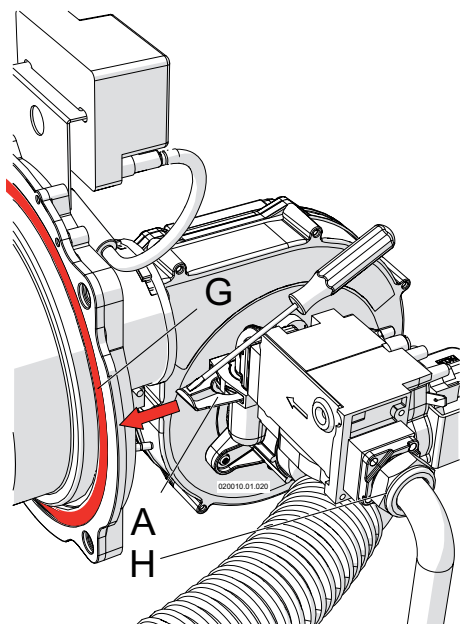
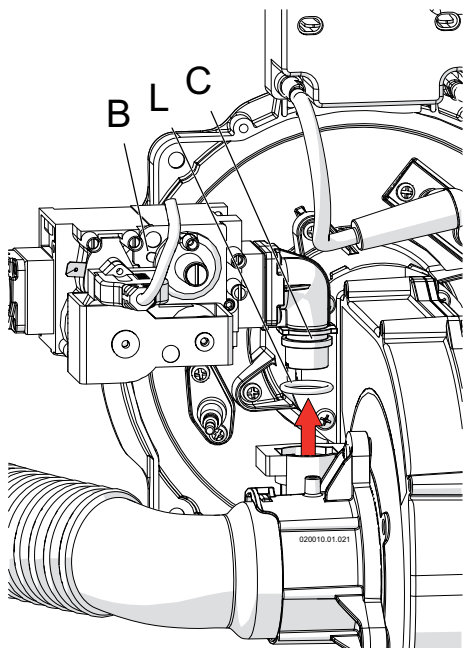

Figure 12-3 Dismantle the gas valve
Figure 12-4 Lift the gas valve
- 10 - unscrew nut "H" as per Figure 12-3;
- 11 - with the help of a screwdriver, remove spring "A" (see figure 12-3);
- 12 - remove the gas valve from its site "C" as per Figure 12-4 (take care attention to o-ring "L" of Figure 12-4);
- 14 - reinstall the gas valve, taking care attention to the o-ring "L" of Figure 12-4 and to the gasket between gas valve and nut "H" of Figure 12-3;
- 15 - Insert again the spring "A" of Figure 12-3;
- 16 - tight nut "H" of Figure 12-3;
- 18 - check for any gas leaks on nut "H" of Figure 12-3;